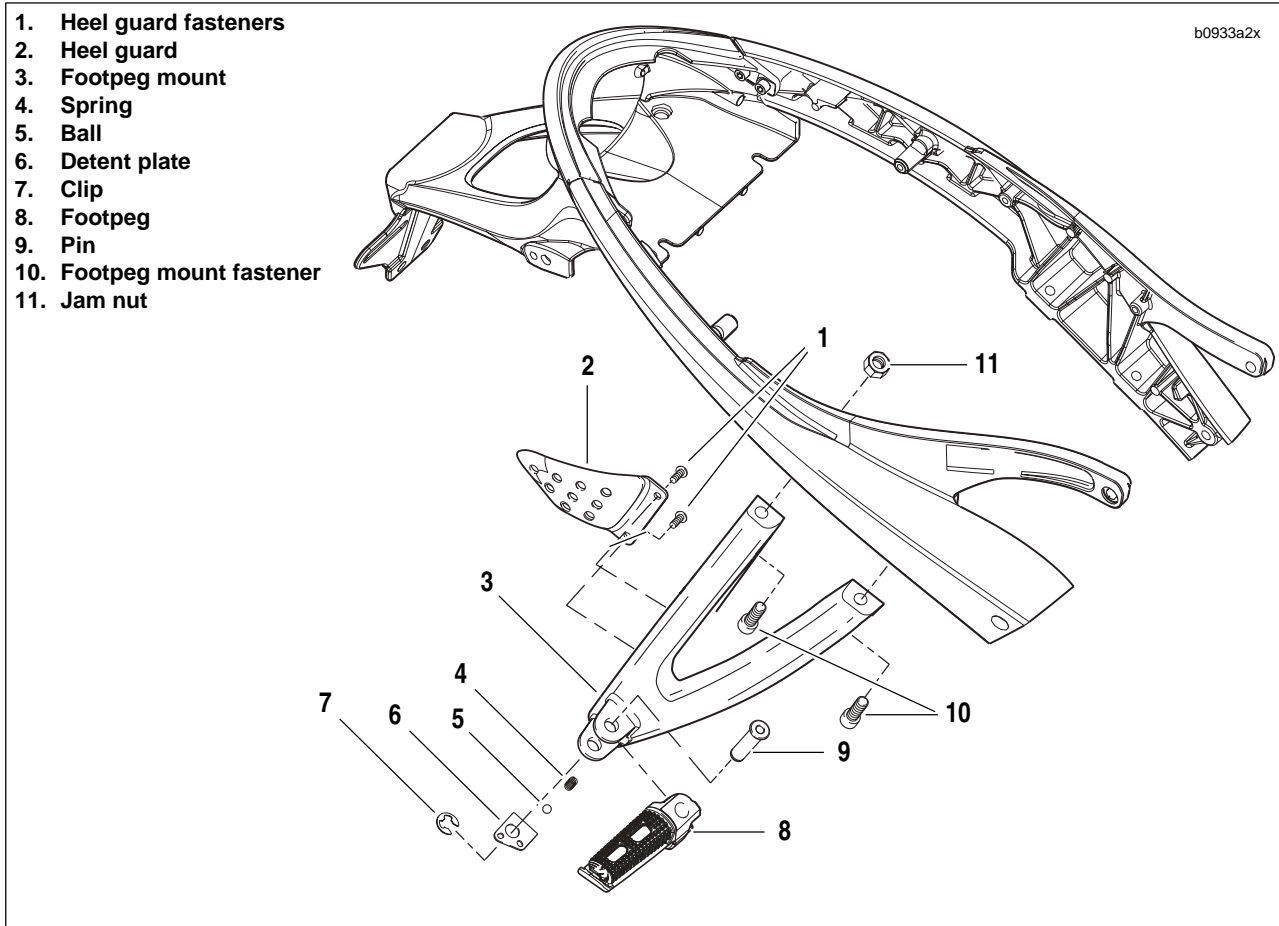

Figure 2-102. Passenger Footpeg, Mount and Heel Guard Assembly
1. See Figure 2-102. Remove clip (7).
2. Remove footpeg pin (9).
3. Remove footpeg (8), detent plate (6), ball (5) and spring (4).
1. See Figure 2-102. Remove heel guard fasteners (1).
2. Remove heel guard (2).
1. See Figure 2-102. Remove footpeg mount fasteners (10).
2. Remove footpeg mount (3).
1. See Figure 2-102. Position footpeg mount (3) onto tail section.
2. Apply LOCTITE 272 (Red) to footpeg mount fasteners (10), install and tighten to 25-28 ft-lbs (34-38 Nm).
3. Install jam nut (11) and tighten to 48-72 **in-lbs** (5.4-8.1 Nm).
1. See Figure 2-102. Position heel guard (2) onto footpeg mounts (3).
1. See Figure 2-102. Position footpeg (8), detent plate (6), ball (5), and spring (4) on to footpeg mount (3).
2. Install footpeg pin (9).
3. Install clip (7).